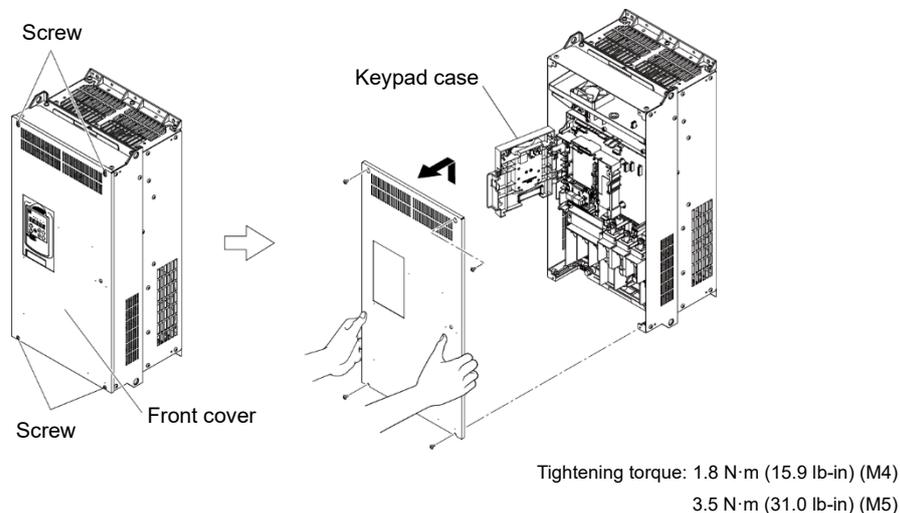

Fig. 2.2-3 Front cover removal (FRN0217G2□-4G)
- 2) After carrying out wiring work, align the top of the front cover with the hole on the cover, and reattach using the opposite procedure to that in Fig. 2.2-3.